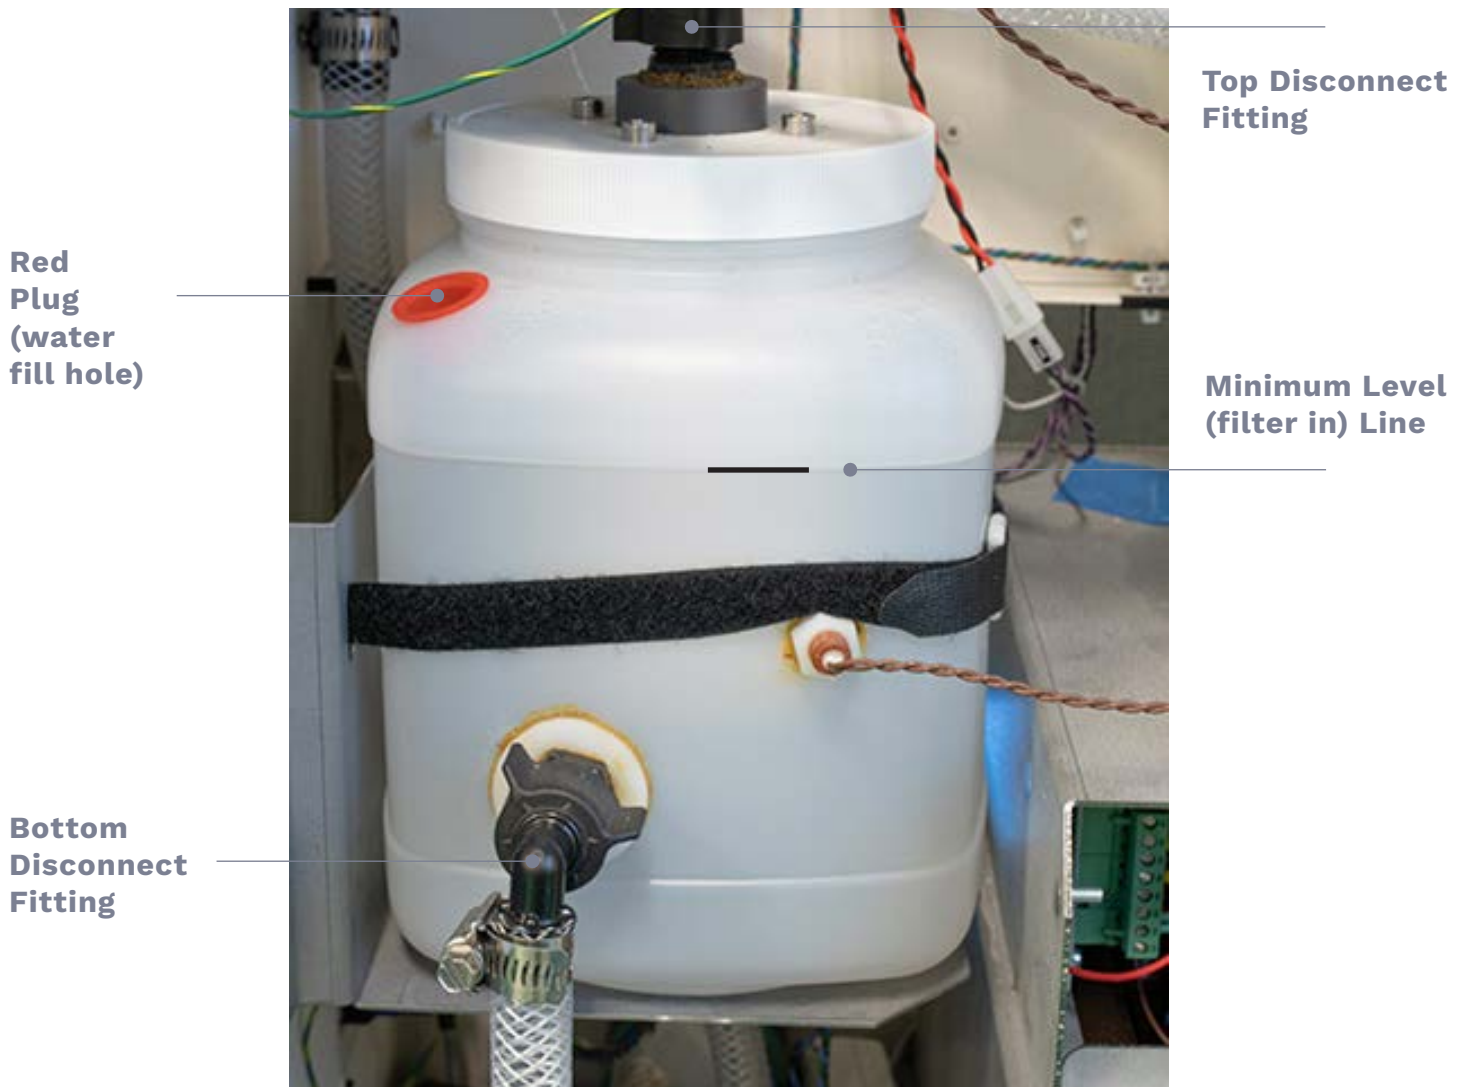

Figure 1
3. Remove the six (6) screws securing the left-side panel; lift the panel and disconnect the ground wire. **(Note: Be careful not to damage the ground wire.)**
4. Check that the bypass pinch valve is tightly closed; remove the bypass hose from the fill hole. **(figure 1)**
6. Prime the water cooling system by inserting the bypass hose back into the distilled water bottle; open the bypass pinch valve. **(figure 1)**
- a. The water should immediately start to flow; let the pump continue to run for 3 – 5 minutes. Next, tightly close the bypass pinch valve. **(figure 1)**
- b. If the pump starts to squeal or make strange noises, immediately turn “off” the system. Leave the machine “off” for five (5) minutes; repeat this step, if needed.
2. Turn “off” the AC power by unplugging the **mains power** cord or shutting “off” the wall disconnect switch; the device should remain “off” for **at least five (5) minutes** before servicing.
4. Remove the bypass hose from the fill hole. Next, using a clean funnel, fill the distilled water reservoir to the maximum-level line, and reinstall the bypass hose. **(figure 1)**
5. Replace the left-side panel and reinstall the six (6) screws. **(Attention: Be sure to reconnect the ground wire).**
9. Using a clean funnel, fill the distilled water reservoir to the maximum-level line and reinstall the bypass hose. **(figure 1)**
11. Open the bypass pinch valve. **(figure 1)**
- a. **Attention:** The water should immediately start to flow; let the pump continue to run for 3 – 5 minutes. Next, tightly close the bypass pinch valve. **(figure 1)**
- b. **Attention:** If the pump starts to squeal or make strange noises, immediately turn "off" the system. Leave the machine "off" for five (5) minutes; repeat this step, if needed.
2. Turn “off” the AC power by unplugging the **mains power** cord or shutting “off” the wall disconnect switch; the device should remain “off” **at least five (5) minutes** before servicing.
3. Remove the six (6) screws securing the left-side panel; lift the panel and disconnect the ground wire. (**Note: Be careful not to damage the ground wire.**)
4. Remove the red plug from the bottle. This will reveal a filling hole. (**figure 1**) (**Attention: Make sure you have paper towels available.**)
5. Use a siphoning device, hand pump or squeeze pump to remove the water from the bottle through the filling hole. (**figure 1**)
2. Wait five (5) minutes. (This allows the flashlamp power supply to fully discharge.)
3. Remove machine top cover by removing the screws located on the rear of the cover as shown in (Figure 1). Carefully slide the cover back and remove the ground wire (green with yellow stripe).